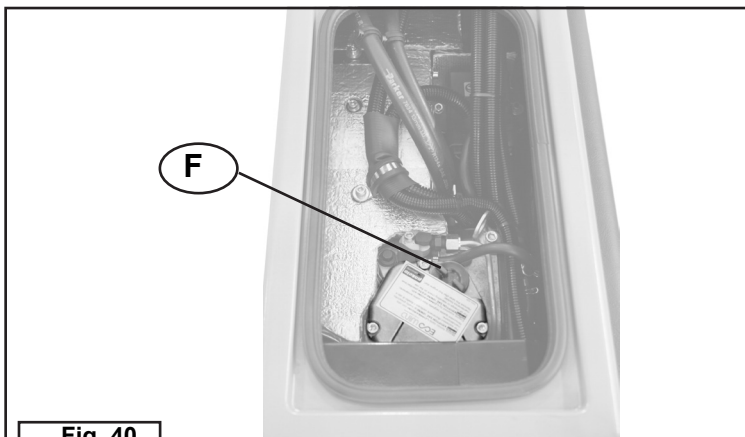

Fig. 40
6	Unscrew and remove the plug (F) and add the amount of oil needed using a funnel (fig. 40).